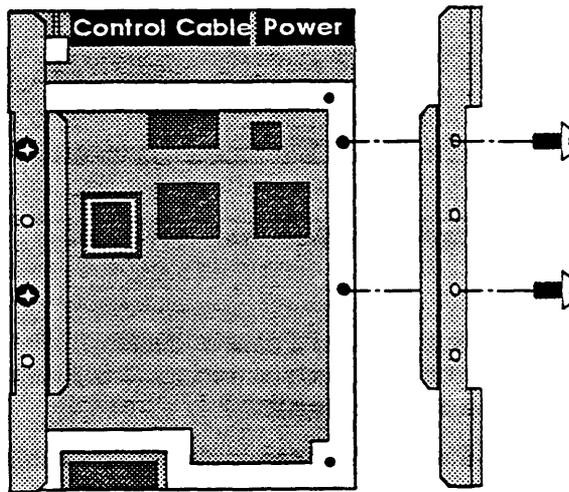

Figure 3-16. Hard Disk Drive Mounting Rails
10. Remove the rails from the bottom of the hard disk drive and reattach them to the bottom of a new hard disk drive as shown in Figure 3-16.